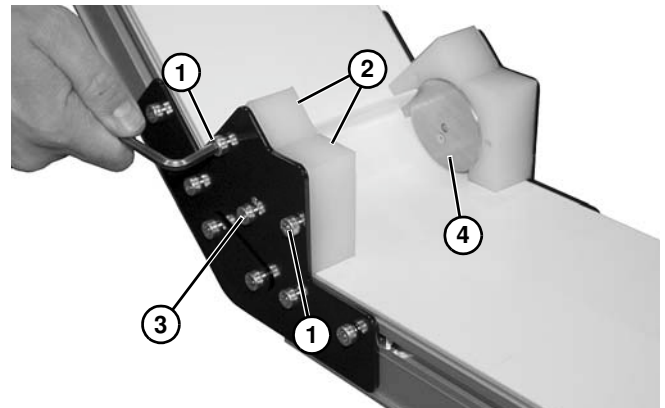

Figure 58
1. If equipped with a lower knuckle, remove screws (**Figure 58, item 1**) and remove guards (**Figure 58, item 2**) on both sides of knuckle.
2. Remove screws (**Figure 58, item 3**) and remove roller bearing assembly (**Figure 58, item 4**) on both sides of knuckle.